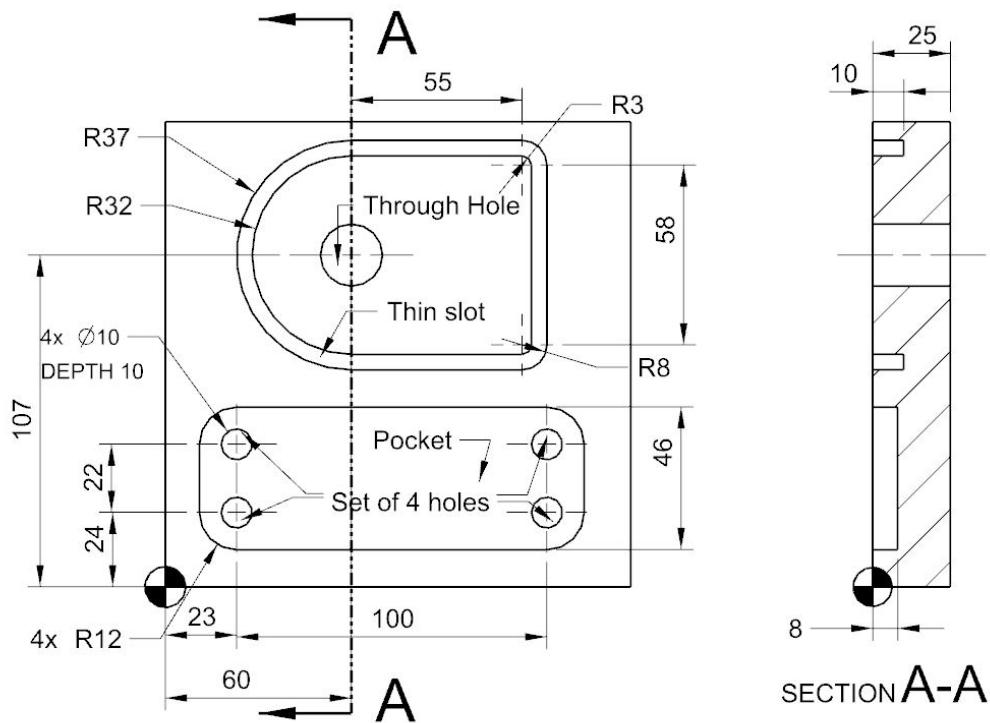

Figure 4. Diagram of part to be produced
a) Write an NC program to manufacture the thin slot, the holes and the pocket shown in Figure 4 using a suitable cutting tool for each feature. In your answer you should summarise the actions of each program block in writing. The machining strategy and the resultant program should require the least number of blocks possible.